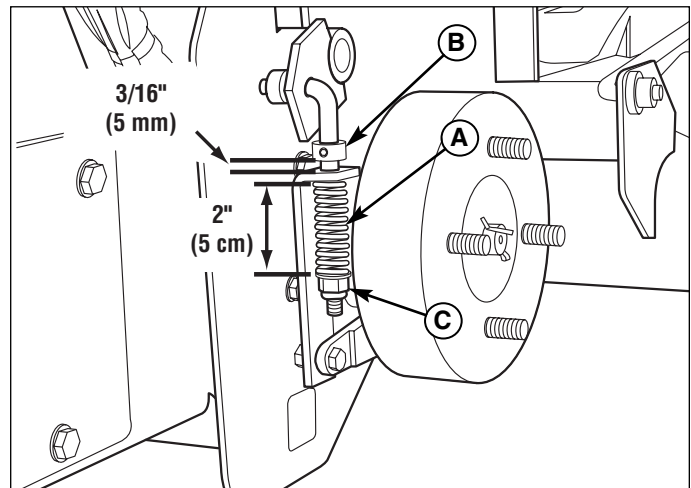

Figure 24. Parking Brake Adjustment
3. Check the brake spring (A, Figure 24) length (both wheels). With the brake engaged the compressed spring length should be 2" (5 cm). If not, adjust the locknut (C, Figure 24) to achieve the compressed spring length of 2" (5 cm).
4. After achieving the correct spring compression, check the set collar gap (B, Figure 24). With the parking brake engaged, the set collar gap should be 3/16" (5 mm). If not, loosen the set collar screw and move the collar to the correct position.